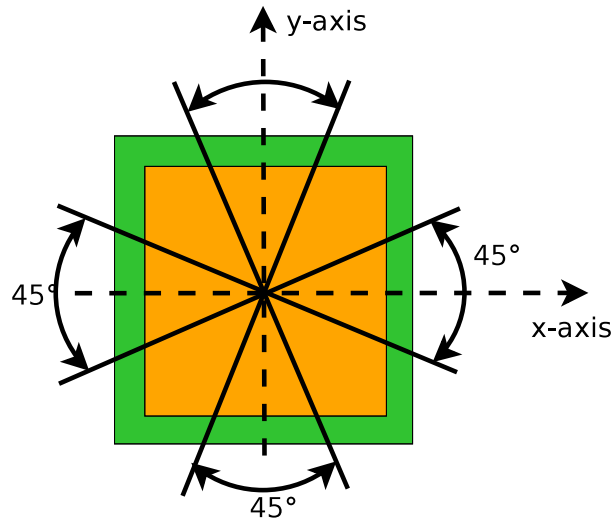

Figure 3.5: Example of rotational alignment (`numberOfRotations=4` and `rotationalTolerance=22.5 deg`)
- `rotationTolerance`: the tolerated angle difference with respect to each of the allowed docking rotations (see figure 3.5).
- `numberOfRotations`: specifies how many different docking rotations are allowed in a full 360 degree rotation around the `Connector`'s `z`-axis. For example, modular robots' connectors are often 1-, 2- or 4-way dockable depending on mechanical and electrical interfaces. As illustrated in figure 3.5, if `numberOfRotations` is 4 then there will be 4 different docking positions (one every 90 degrees). If you don't wish to check the rotational alignment criterion this field should be set to zero.